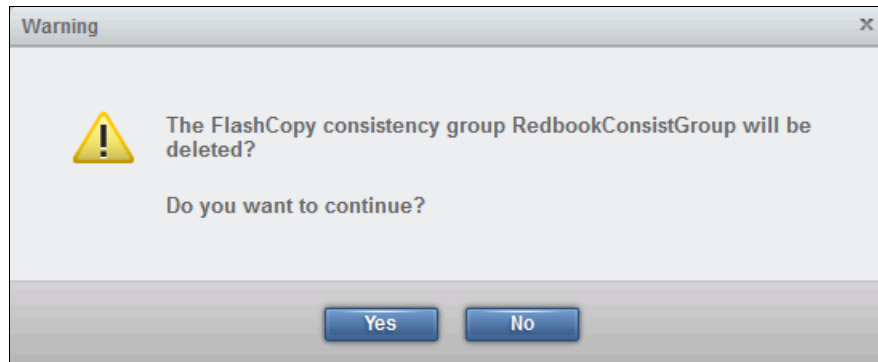

Figure 10-65 Confirming deletion of a consistency group
2. You are presented with a confirmation pane as shown in Figure 10-65.